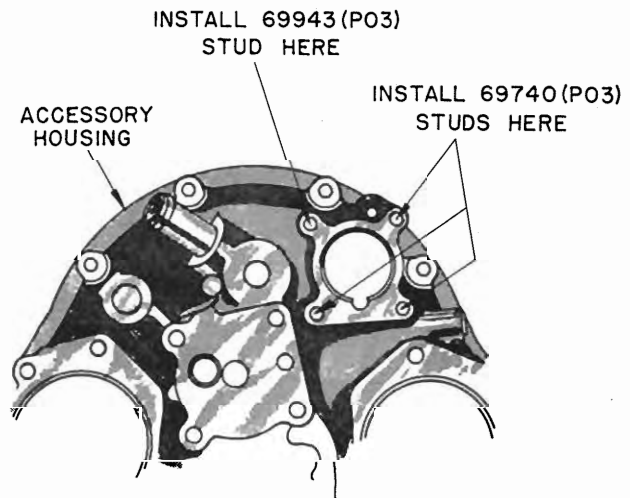

Figure 135 - Vacuum Pump Pad Stud Modification
3. Remove all four studs from the vacuum pump mounting pad and install three 69740 (PO3) studs, to a height of 3.34 inches, and one 69943 (PO3) stud, to a height of .83 inches in the pad at the locations shown in figure 135.